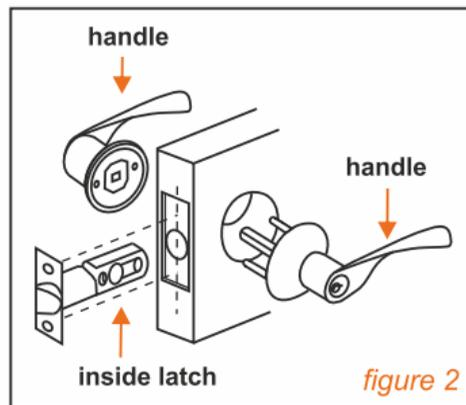

figure 2
3.2. Fasten all the details as shown on *figure 2*